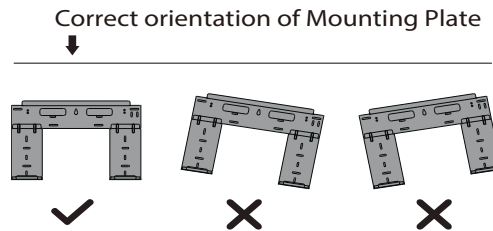

Fig. 9 — Mounting Plate Orientation
4. Put an upper claw at the back of the indoor unit on the upper hook of the mounting plate and move the indoor unit from side to side to ensure it is securely hooked. See "Mounting Plate Dimensions" on page 10 and Fig. 9 for reference.